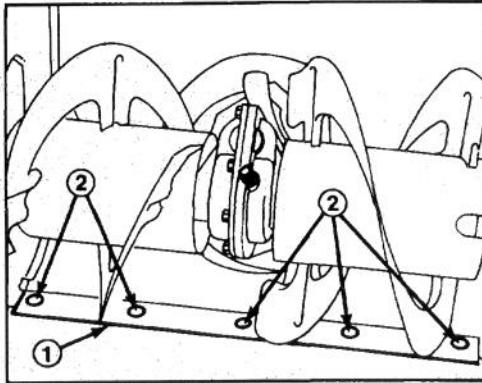

Figure 20
2. Adjust both skids so there is 1/8 of an inch (3 mm) between bottom of auger and level surface. When skids are adjusted correctly, tighten flange nuts. Next, check scraper blade that is mounted at bottom of auger housing (Fig. 20). To adjust scraper, loosen five mounting screws, level scraper, and retighten screws. Scraper must be parallel with level surface.